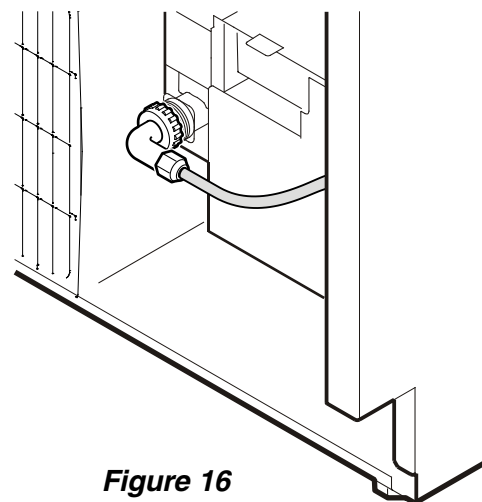

Figure 16
8. Screw the OD adapter onto the solenoid valve (**Figure 16**).